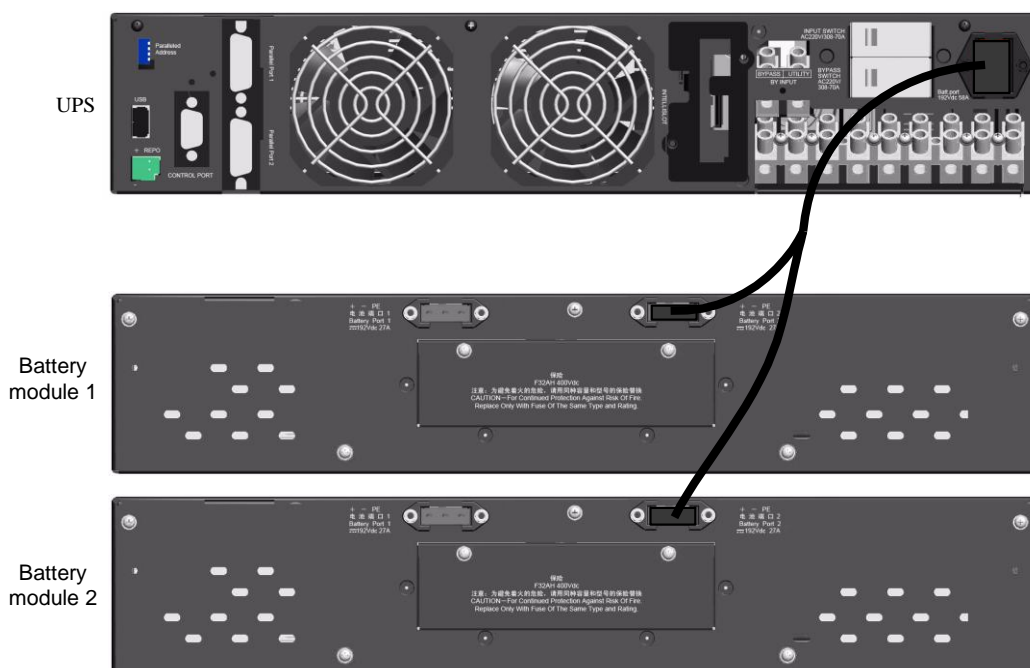

Figure 2-24 Battery cable connection for standard UPS
3. Take out the battery cable A from the UPS accessories, connect the red, black and green terminal of one end of the battery cable A to the corresponding terminal of the battery port on the rear panel of the UPS, and connect the other end of the battery cable A to one of the battery ports of the two battery modules, as shown in Figure 2-24.